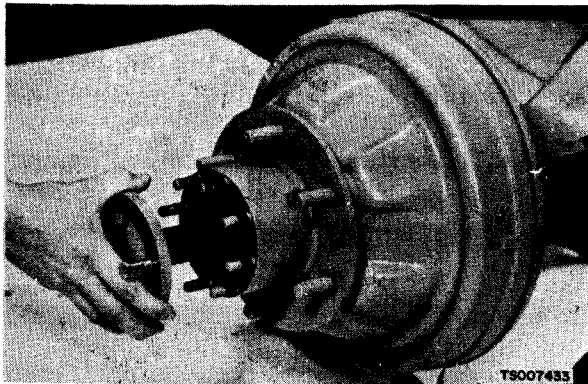

Figure 10-3. Removing Axle Shaft.
- (2) Remove axle shaft as shown in figure 10-3.